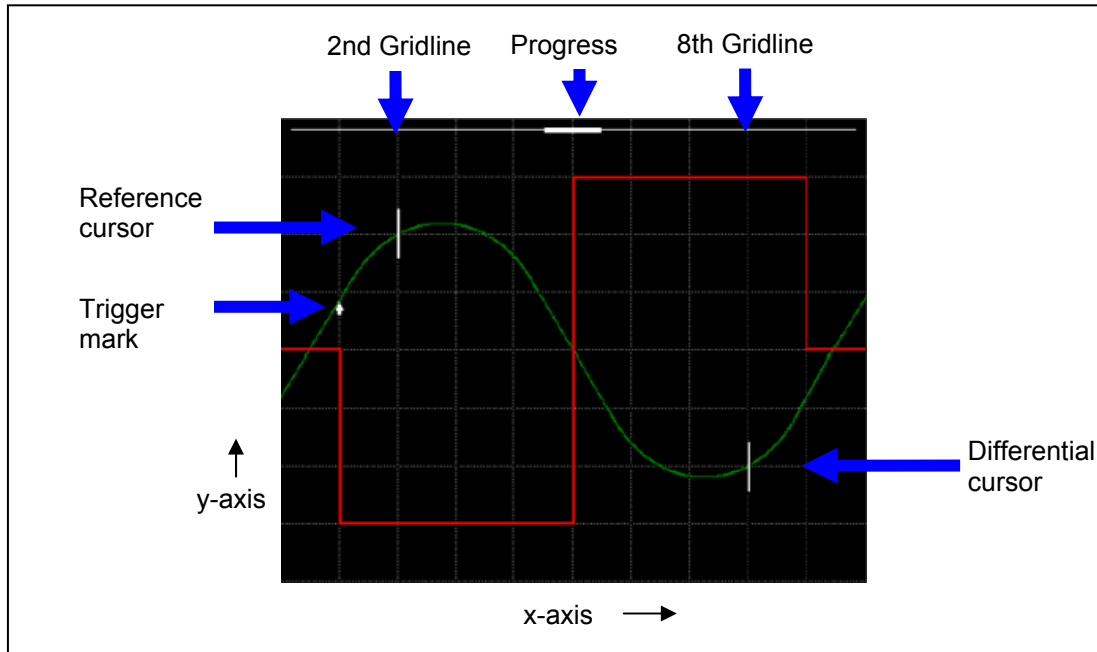

Fig. 3.38 Graph display
- ◇ **CH1, CH2:** When clicking and locking a button, the two cursors will appear in the second and eighth grid line of the graph display for the respective curve (reference and difference, see Fig. 3.38). The cursors can only be displayed for one channel respectively: For example, if you lock the "CH2" button, then the "CH1" button will be simultaneously unlocked. If you click the same button once more, the measuring cursors will be faded out again. You can move the reference cursor along the x-axis with the two reference arrow keys and the differential cursor by using the differential arrow keys. The cursors move pixel by pixel; their speed increases if an arrow key is pressed down for longer. As soon as a cursor reaches the edge of a measurement curve, the respective arrow key can no longer be operated.